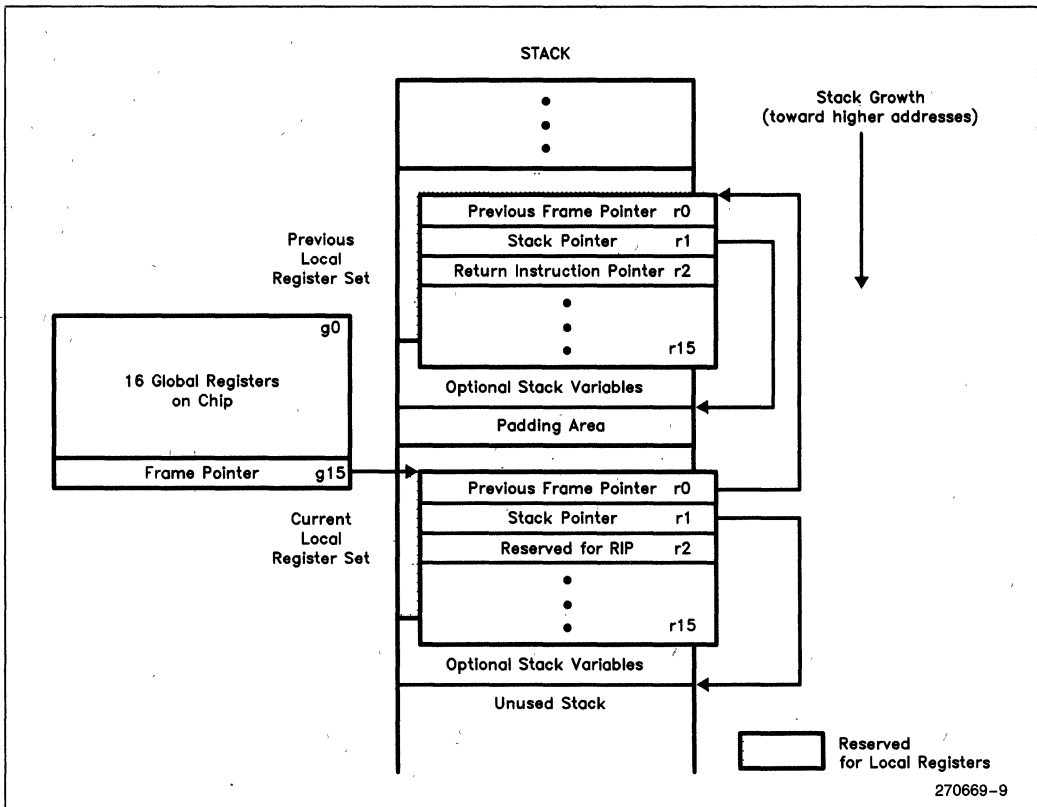

Figure 3-7: Stack Frame Linkage
Figure 3-7 describes the pointer structure used to link frames and to provide a unique SP for each frame. Register g15 is the *Frame Pointer (FP)*. The FP is the address of the first byte of the current (topmost) stack frame. The FP is always updated to point to the current frame when calls and returns are executed. Register r0 is the *Previous Frame Pointer (PFP)*. The PFP is the address of the first byte of the stack frame which was created prior to the frame containing this PFP. Register r1 is the *Stack Pointer (SP)*. The SP points to the next available byte of the stack frame. Register r2 is reserved for the *Return Instruction Pointer (RIP)*. The RIP is the address of the instruction which follows a call instruction, this is also the target address for the return from that procedure. The RIP is automatically stored in register r2 of the calling procedure when a call is executed.
The 80960CA provides an on-chip cache for saving and restoring the local registers on calls and returns. This cache greatly enhances performance of the call and return mechanism on the 80960CA. Movement of data between the local registers and the register cache is typically accomplished in only 4 processor clocks with no external bus traffic. When this cache is filled, the registers associated with the oldest stack frame are moved to the area reserved for those registers on the physical stack (Figure 3-7).